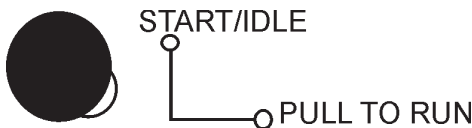

Figure 51. Engine Throttle Control
8. Place the **engine throttle control** in the “**LOW**” position (Figure 51).